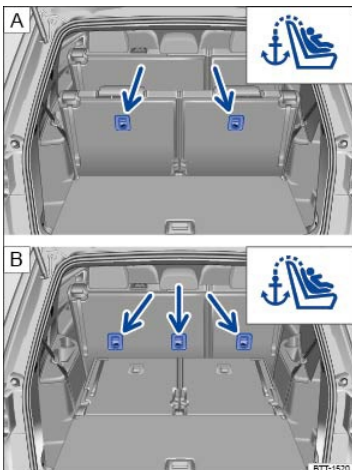

Fig. 50 Anchorages for the top tether strap on the back of the third row seats and the second row seats .
- Locate the tether anchor behind the rear seat backrest ⇒ Fig. 50.
- Attach the tether strap anchorage hook into the opening of the tether anchorage ⇒ Fig. 50.